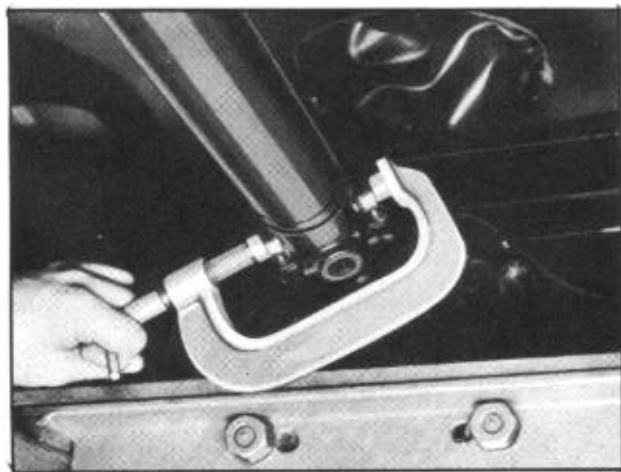

Figure 3--Universal Joint Bearing Tool
6. Install the other two bearing assemblies on the journal and compress them with the universal joint assembling tool J 881 (Figure 3).